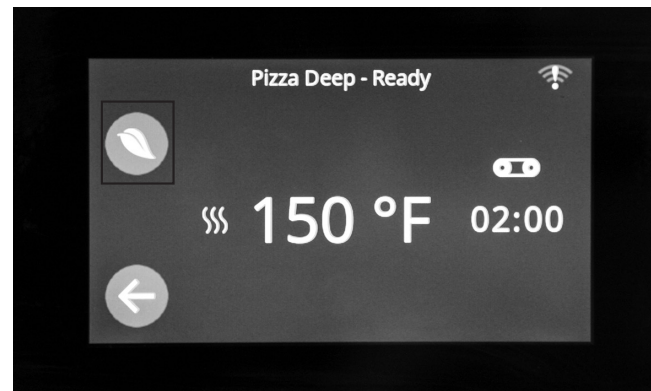

Figure 6
1. Press the Leaf button on upper left side of the Recipe - Ready screen (Figure 6). The screen will change to Eco Mode. The conveyor will stop moving while the temperature in the cavity should remain unchanged.